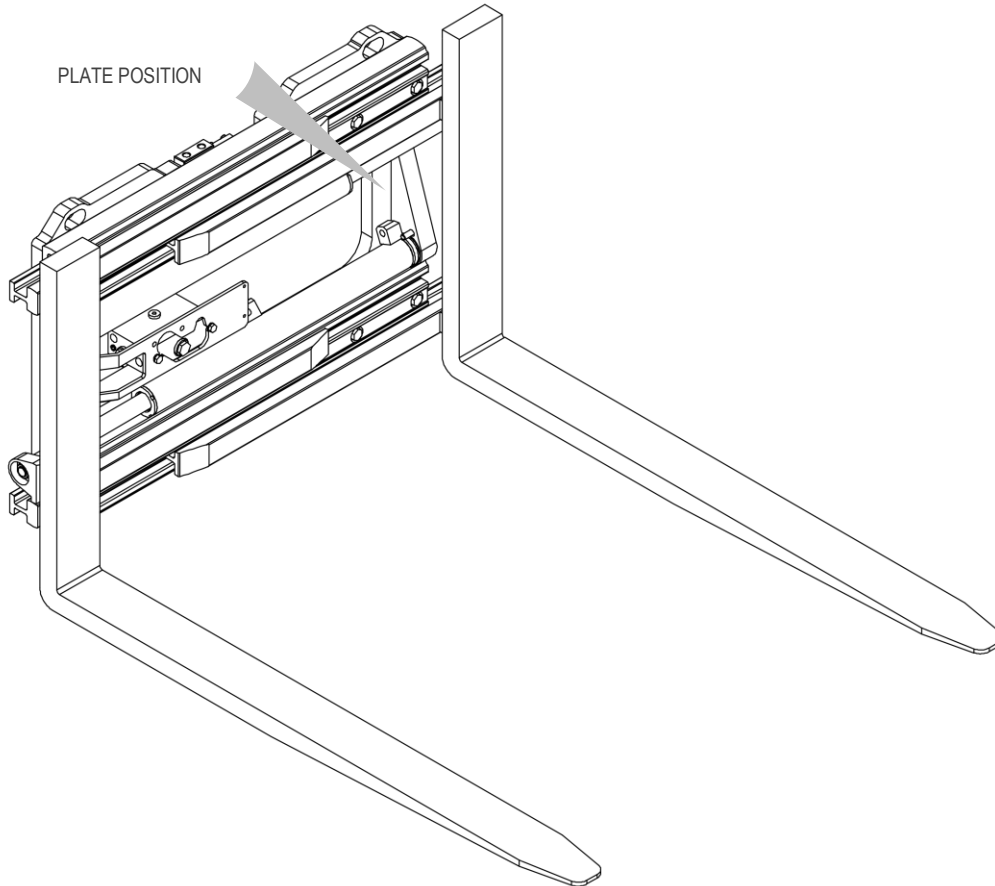

Figure 1
All the A.T.I.B. equipment – “GRIPPER WITH WELDED FORKS 474.170 | GRIPPER WITH ROTATING FORKS 474.150” are identified by means of an adhesive plate (see *Table 1*) located on the equipment (see *Figure 1*), always refer to the serial number.
5. For handling, use straps or chains that are suitably sized in relation to the weight of the equipment as indicated on the plate (see *Figure 1* and *Table 1* on page 6).
9. Connect the hydraulic circuit, ensuring that the operating pressure of the lines is greater than or equal to that indicated on the rating plate (see *Figure 1* and *Table 1* on page 6).
6. For handling, use straps or chains that are suitably sized in relation to the weight of the equipment as indicated on the plate (see *Figure 1* and *Table 1* on page 6).